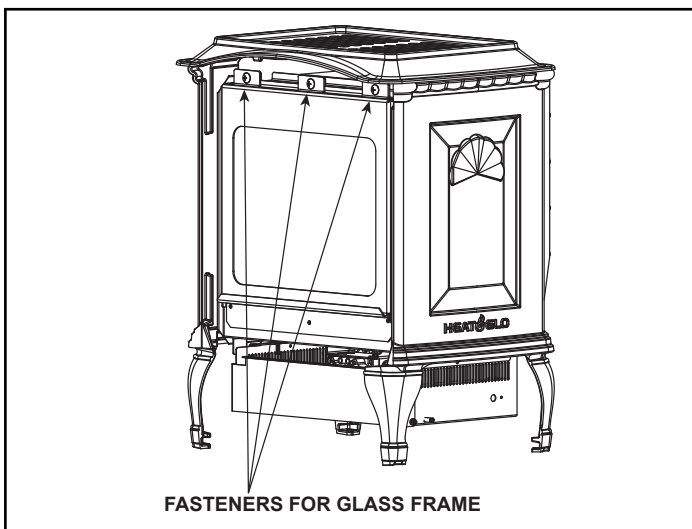

Figure 10.2 Remove Glass Frame
2. Using a Phillips screwdriver, remove the three screws on the front glass assembly and take the glass assembly off the appliance. See Figure 10.2.